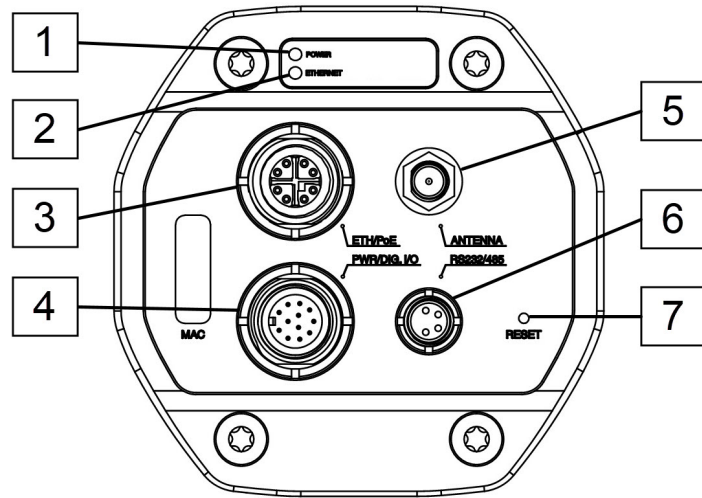

Figure 7.1 View from the rear
1. Connect the Ethernet cable (M12 to RJ45) to the Ethernet/PoE connector on the camera (Figure 7.1, item 3).